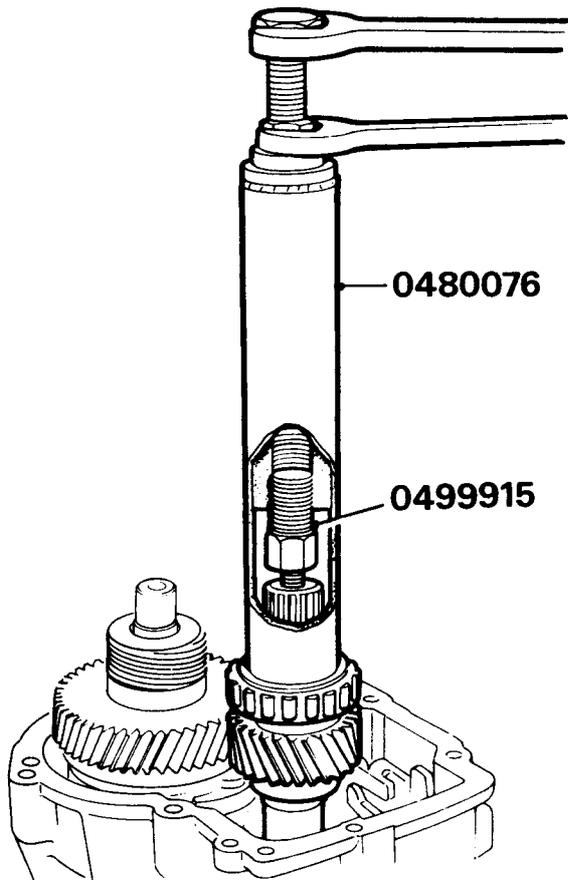

Fig.53 Fitting 5th mainshaft gear
47. **CAUTION: Mesh gears while pressing on 5th gear, to avoid chipping teeth.** Fit 5th mainshaft gear assembly on shaft, and use 0480076 and 0499915 (18G 1431A) to press gear down to circlip (see fig 53).